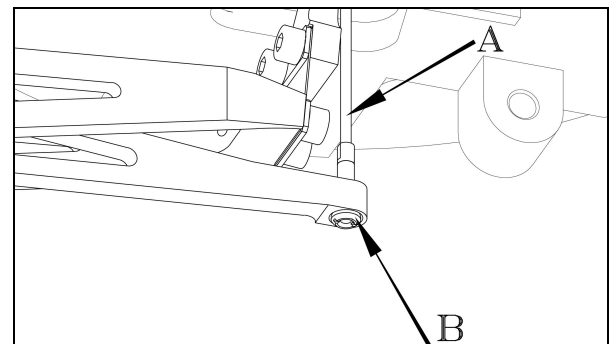

Fig 2
- Adjust the left spreader first. If adjustment is necessary, loosen the nut (A) on the spreader wire in Fig 2. Turn the screw (B) inwards to increase the distance between the spreader and needle. Turn outwards to decrease the distance.